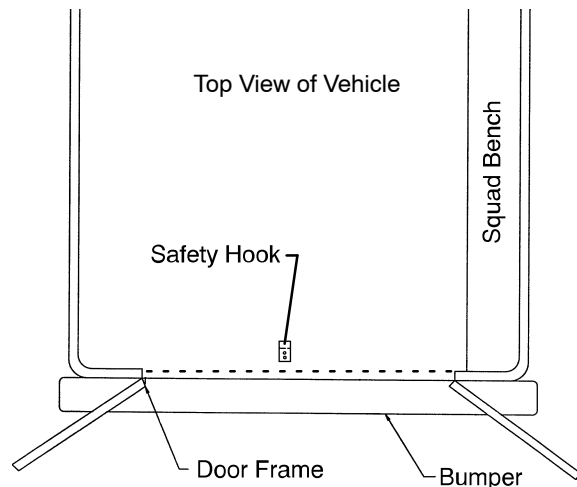

Figure 6 – Safety Hook Placement
4. Mark the position of the safety hook on the patient compartment floor. The safety hook should be installed as close as possible to the rear of the vehicle while allowing the vehicle doors to close and checking that the load wheels always remain on the patient compartment floor (i.e. wheels do not roll off the door sill when the cot safety bar engages the safety hook) when the cot is loaded and unloaded from road and/or curb height (Figure 6).